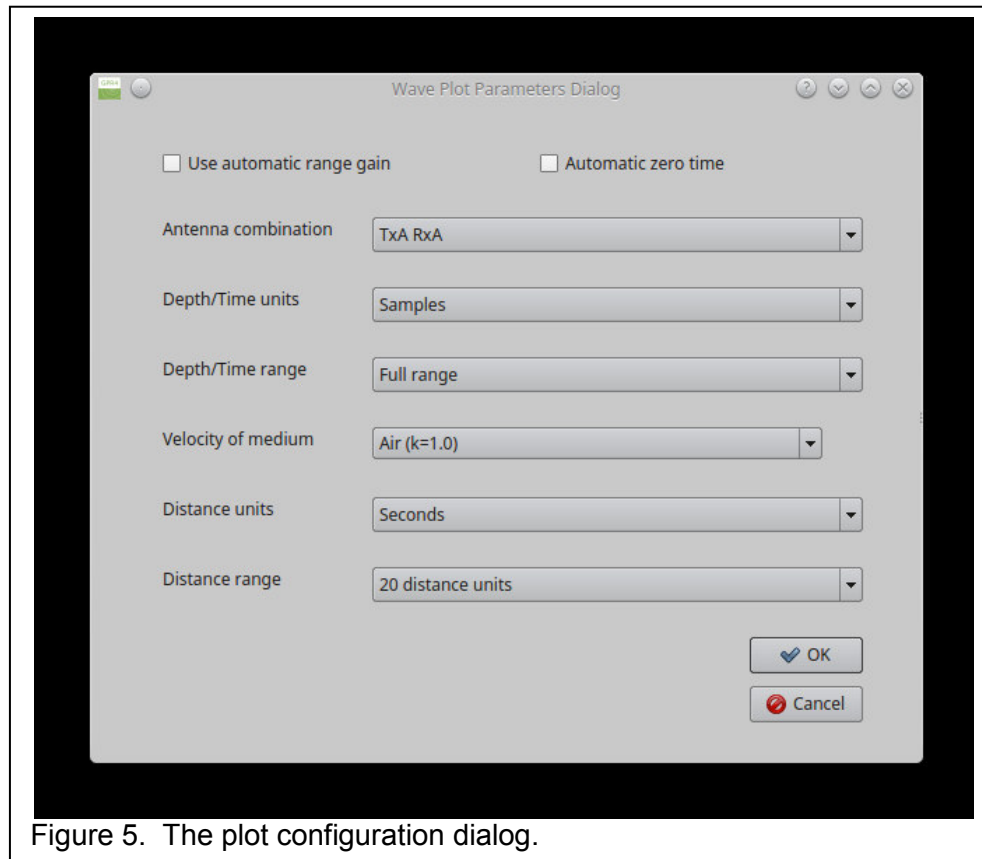

Figure 5. The plot configuration dialog.
6. The GPR4 Record tab has standard A-scan and B-scan plots that are customary for most GPR systems. The plot parameters can be changed by pressing the Plot parameters button  (see Figure 5). For most users, the default settings will be sufficient. For those interested, the dialog functions are described below.
7. The Survey Grid tab shows how the linear traverses making up the survey will be arranged. This step can be skipped when only conducting a single scan line. These traverses are planned using the  button and the dialog shown in Figure 5. To type